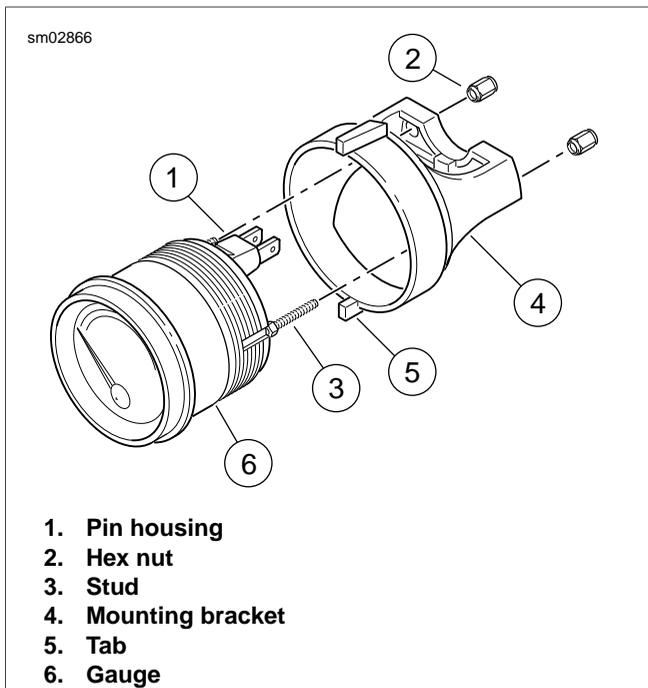

Figure 2-139. 2 Inch Diameter Gauges
2. Install voltmeter and fuel gauges in inner fairing. Slide mounting brackets over studs. Verify that tabs on top and bottom of brackets engage slots in inner fairing. Loosely install hex nuts on studs. Verify that gauge is properly aligned and tighten nuts to 10-20 **in-lbs** (1.1-2.3 Nm). See Figure 2-139.